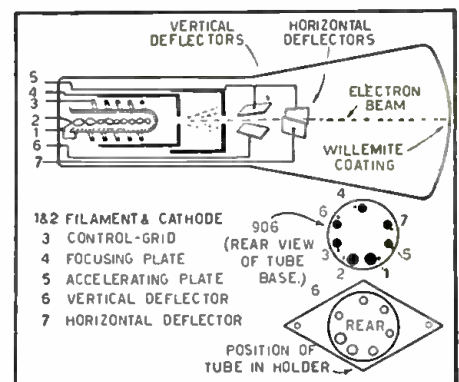

Fig. 2. The 7 elements of the modern oscilloscope tube, in detail.
The 7 elements are as follows (refer to Fig. 2): (1) filament; (2) cathode; (3) control-grid; (4) focusing plate; (5) accelerating plate; (6) vertical deflector; (7) horizontal deflector.